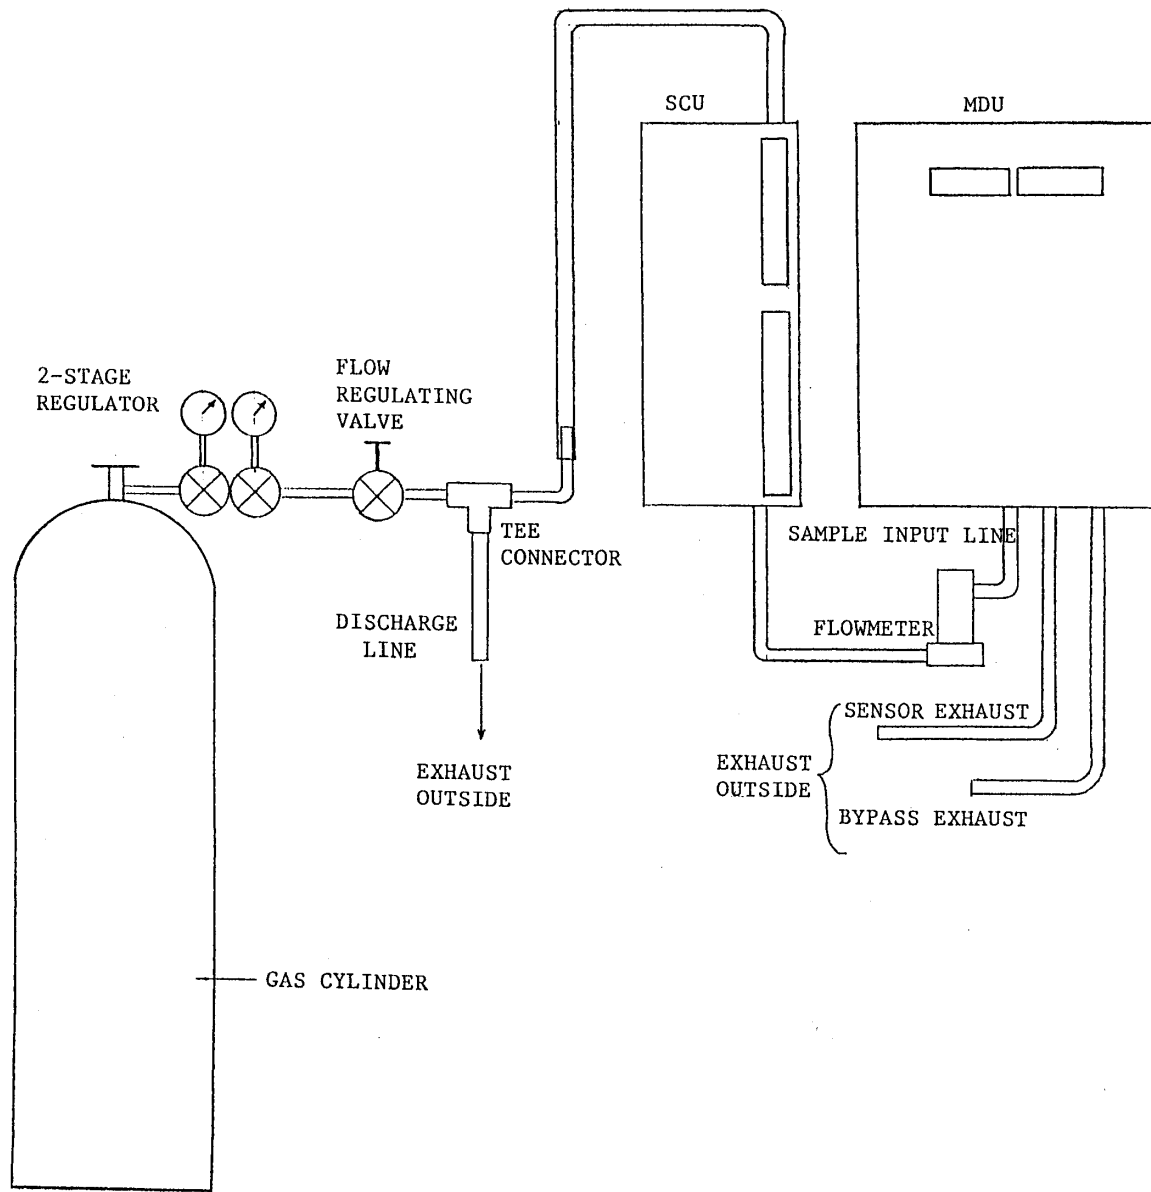

FIGURE 4-1 ATTACHMENT OF SAMPLE GAS CYLINDER TO CM1000 SYSTEM
- h. Figure 4-1 "Attachment of Sample Gas Cylinder to CM1000 System"
- a. Set up the gas sample equipment as shown in Figure 4-1 but do not connect the sample conditioning incoming line to the TEE fitting.